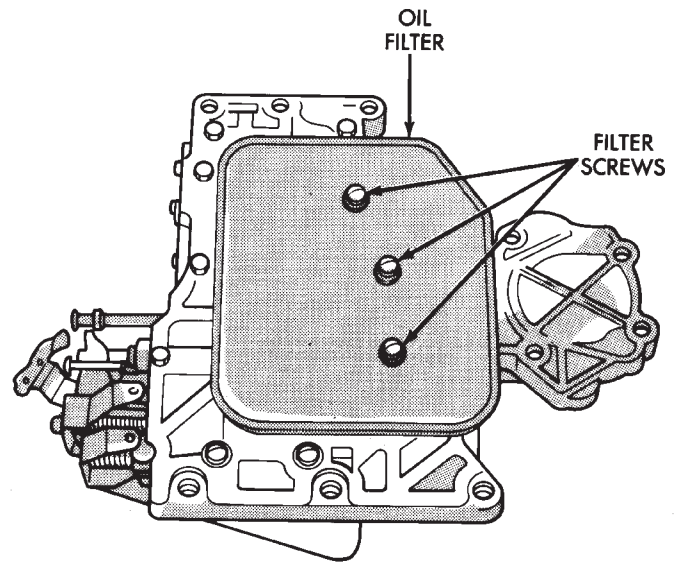

Fig. 9 Oil Filter Screw Locations
- (1) Raise vehicle.
- (2) Remove oil pan and drain fluid.
- (3) Remove filter screws and remove oil filter (Fig. 9).
- (4) Position new filter on valve body and install filter screws finger tight.
- (5) Tighten filter screws to 4 N·m (35 in. lbs.) with inch pound torque wrench.
- (6) Position new gasket on oil pan and install pan on transmission. Tighten pan bolts to 17 N·m (150 in. lbs.) torque.
- (7) Lower vehicle.
- (8) Refill transmission with Mopar ATF Plus, Type 7176. Mopar Dexron II can be used if ATF Plus is not readily available.